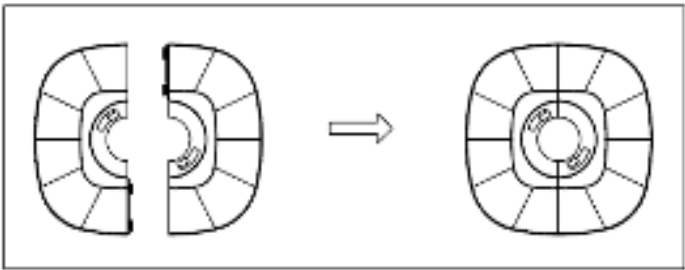

Figure 1
1.Take out the two parts of the chassis from the packing box, align the holes of the two parts of the chassis and clamp them to form a chassis. (as shown in Figure 1)